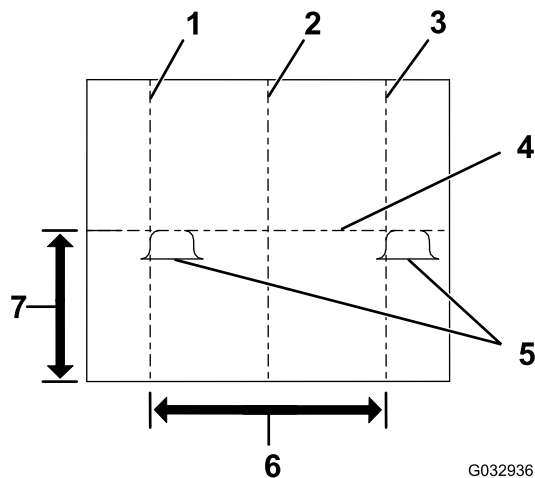

Figure 25
4. Mark the vertical vehicle centerline on the screen (Figure 25).
6. Mark the horizontal headlight centerline on the screen (Figure 25).
7. Adjust the plow headlights until the brightest part of the plow low-beam lights are aligned as shown in Figure 25.
5. Mark the vertical headlight centerline on the screen (Figure 25).